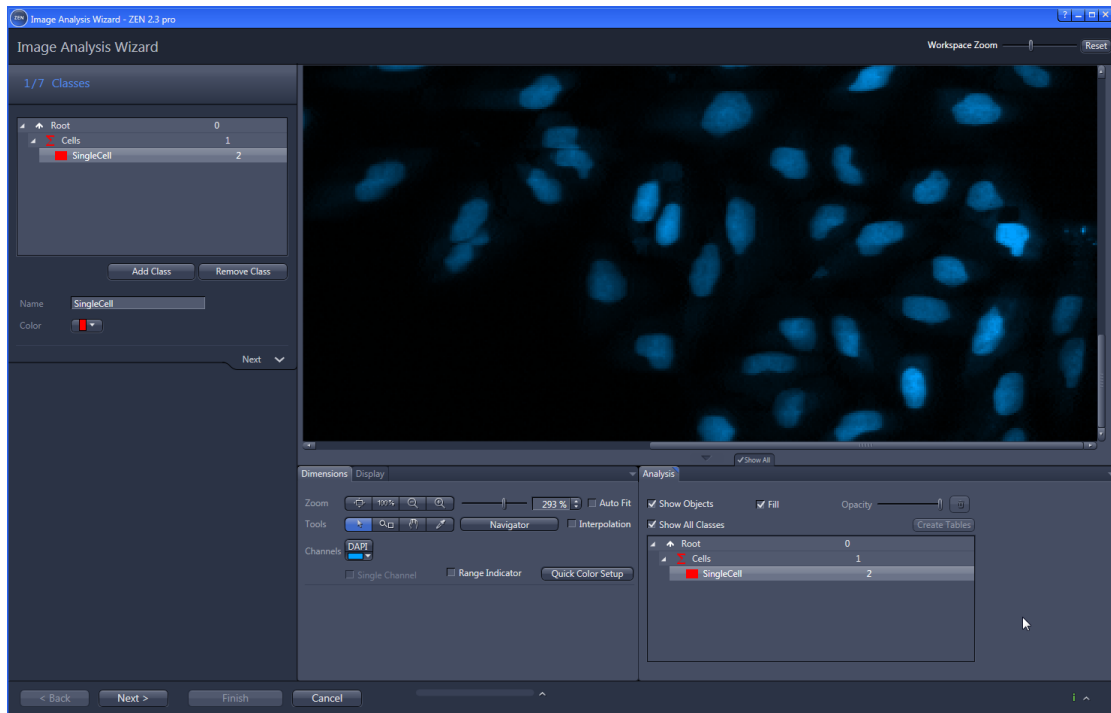

Figure 16: Image Analysis Wizard: Define the classes
1. Define the object and region class – in this case SingleCell and Cells (Fig. 16).